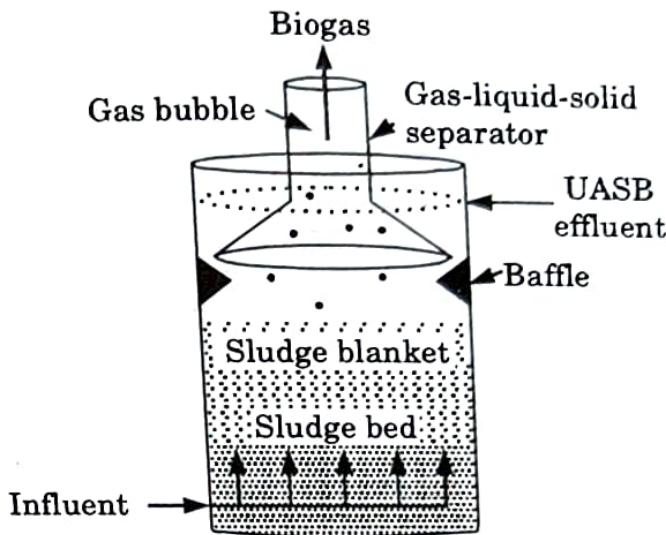

Fig 5.29.1. UASBR.
- i. This is also an up-flow type reactor as shown in Fig. 5.29.1 in which a blanket of biologically formed granules works as packing material.